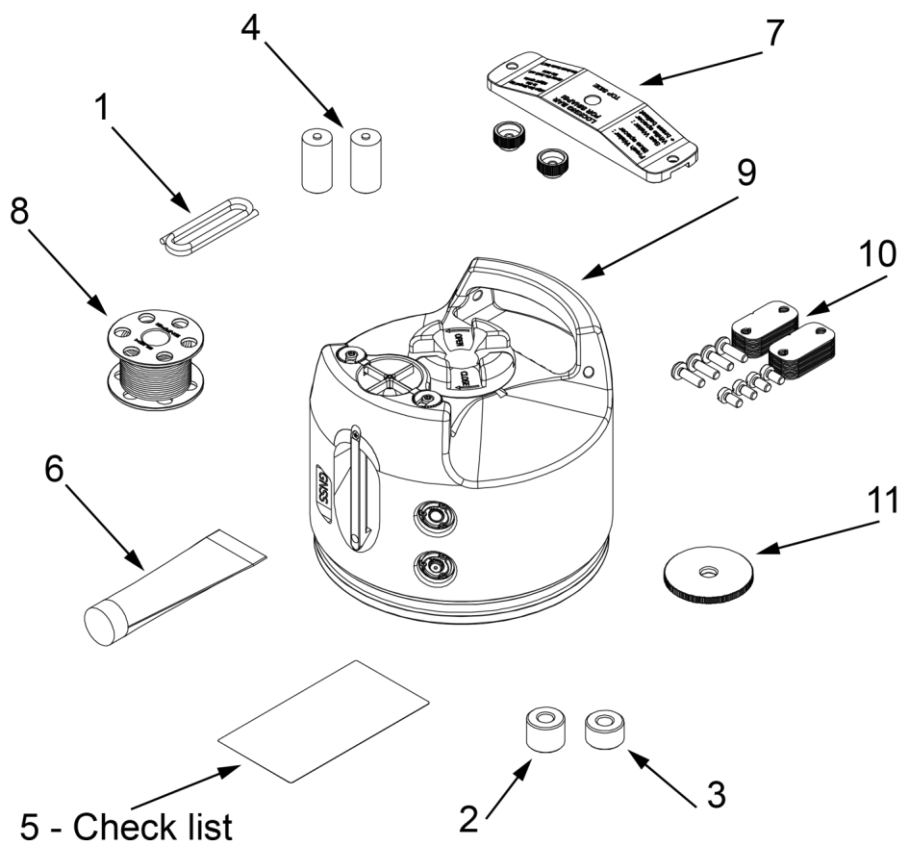

Fig 3 - Package Contents
If the SINAPSI is going to be used for salt water then the extra salt water ballast disk (item 11 - **Fig 3 - a pag. 8**) needs to be installed on the nose.